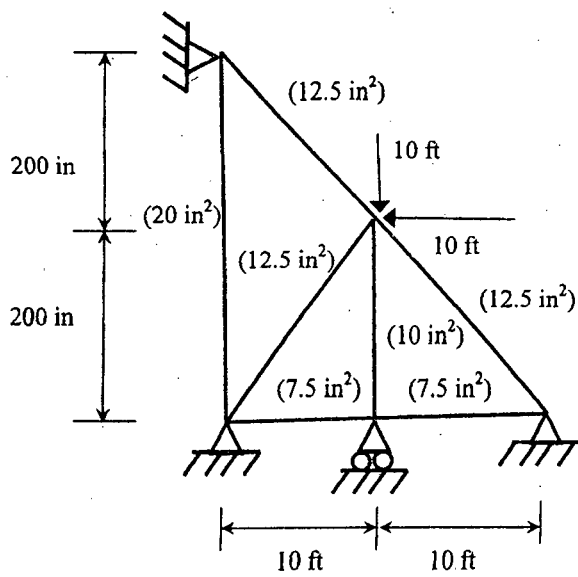

Fig. 5
(b) Determine bar forces of the truss shown in Fig. 5. Use stiffness method. Areas are given in parentheses. Given, $E = 30,000 \text{ ksi}$. (20)